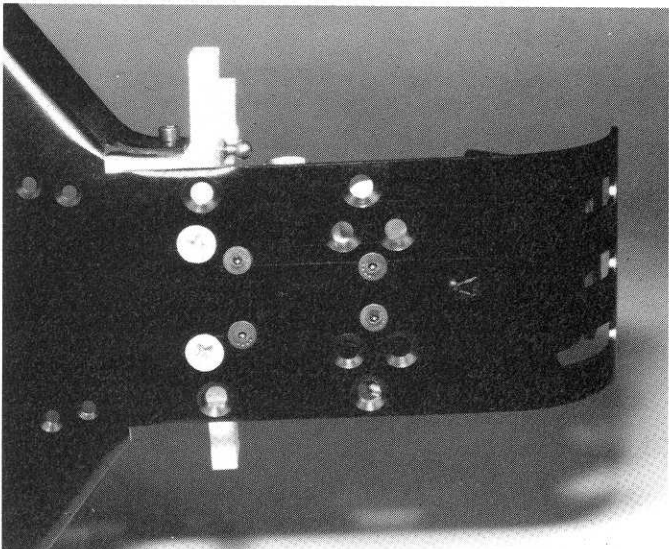

Fig. 76
□ **Fig. 76** These 6 screws should be loose yet.